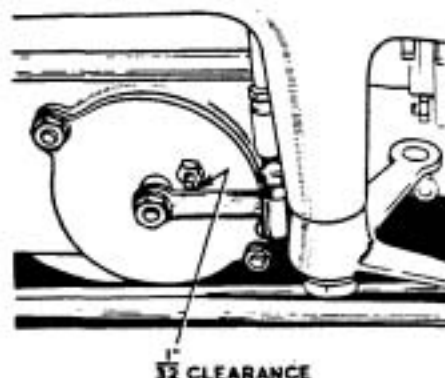

FIG.1.
- (v) Refit the new fast idle cam and link to the fulcrum pin and fit a 2.B.A. retaining nut. No washer is required. Adjust the thermostat link rod to give $1/32$ " clearance between the thermostat lever and its stop pin as shown in Fig.1. Adjust the fast idle cam link rod so that with the choke valve closed the fast idle screw rests at a point approximately $\frac{1}{3}$ the way along the first step of the cam.